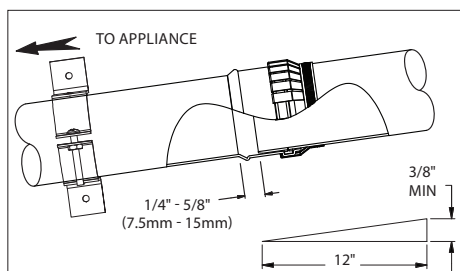

Figure 7
Refer to the appliance manufacturer's installation instructions for requirements of condensate drainage. Ensure proper system slope for drainage. (Fig.7 and 20) When using a P-Trap style drain, connect 1-1/4in (32mm) tubing and secure into a loop. Fill the loop partially with water to prevent exhaust leakage. Route the free end of the loop to an appropriate disposal.
3. **The slope of the vent pipe must be at least 1.8° (3/8" rise per ft run, 31mm per meter) back to the appliance.** Ensure there are no dips in the system where condensate can collect. (Fig.7)
PP Pipe sections must be disengaged 1/4"-5/8" per joint (to allow for expansion) and sloped 1.8°(3/8"per ft) back to the appliance per Fig.7 for proper condensate flow.